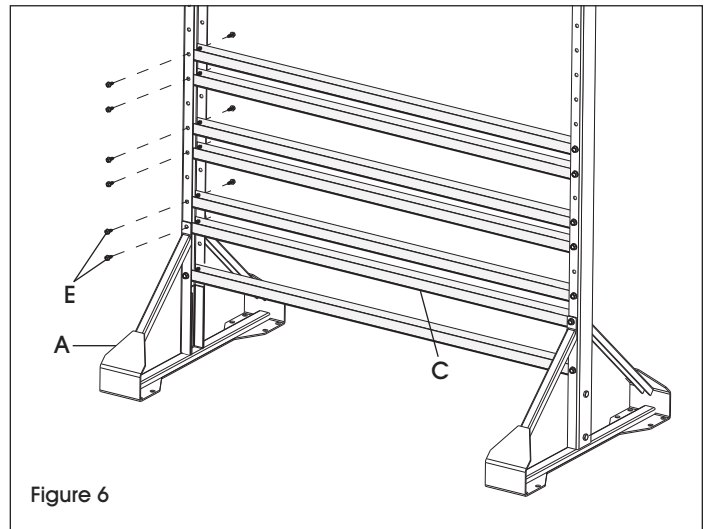

Figure 6
Attach crossbars (C) to the third and fourth holes from the bottom using #14 sheet metal screws (E). Skip every other hole and attach all remaining crossbars in pairs as shown. The last crossbar at the top is a single crossbar. (See Figure 6)
**NOTE:** Attach each base assembly (A) to the third hole up using #14 sheet metal screws (E). (See Figure 6)